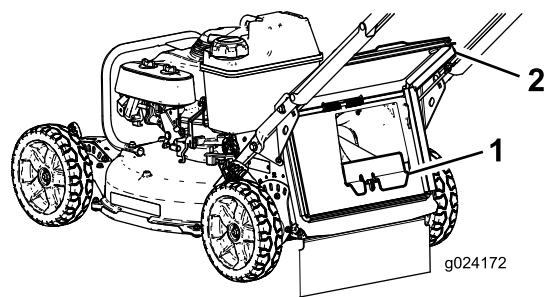

Figure 20
the rear-discharge chute until the latch locks into place (Figure 20).
1. Rear door      3. Notch (2)
2. Bag-rod end (2)
3. Remove the rear-discharge plug by pushing in the latch with your thumb and pulling the plug out from the machine (Figure 20).